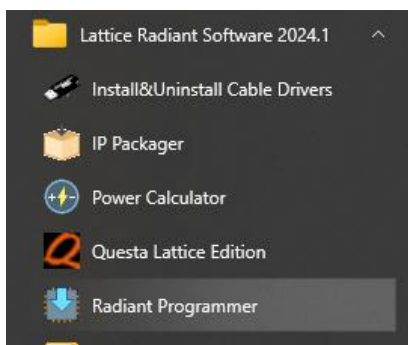

Figure 8.58. Launch Radiant Programmer from Windows Start
1. Launch the Lattice Programmer from Lattice Radiant as shown in Figure 8.58.